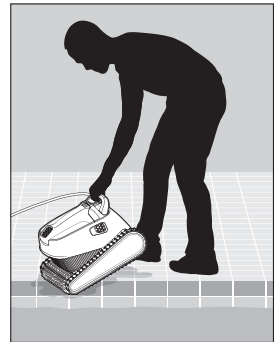

FIGURE 16
4. Place the cleaner on the edge of the pool and allow excess water to drain from the cleaner. See **Figure 16**.